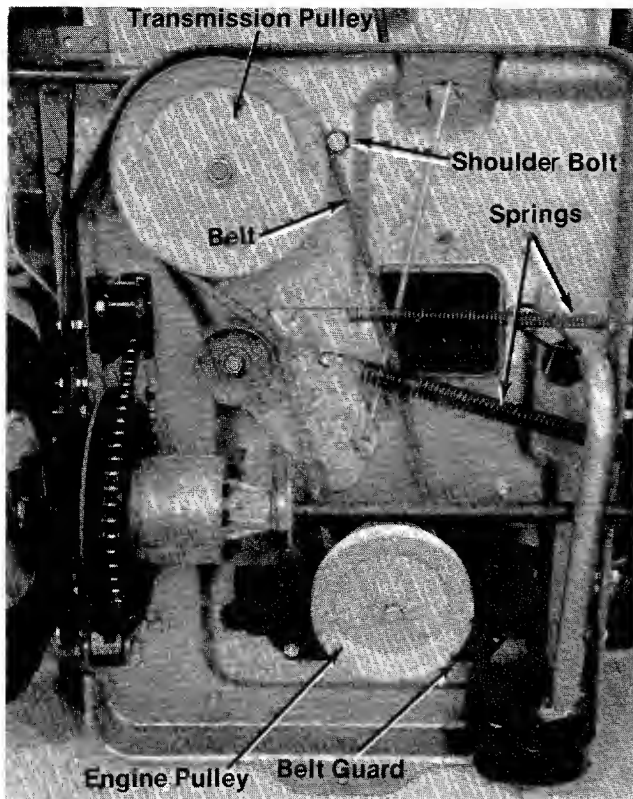

Figure 33
8. Remove the shoulder bolt next to the transmission pulley. (See figures 33 and 34.)